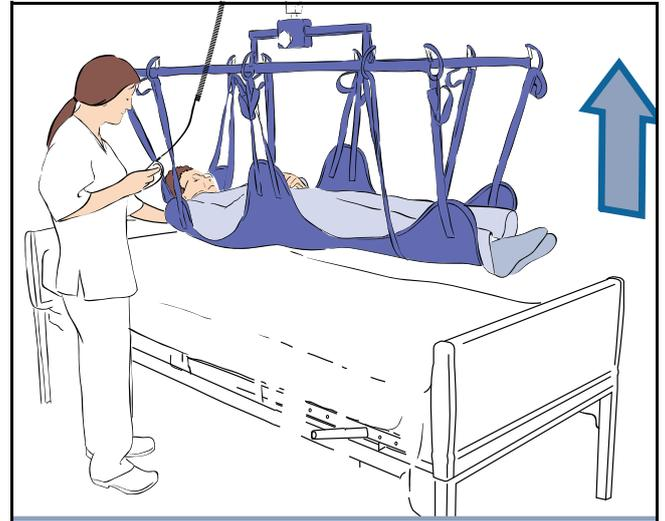

Fig. 14
- 8) Raise and move the patient away from the bed (see Fig. 14).